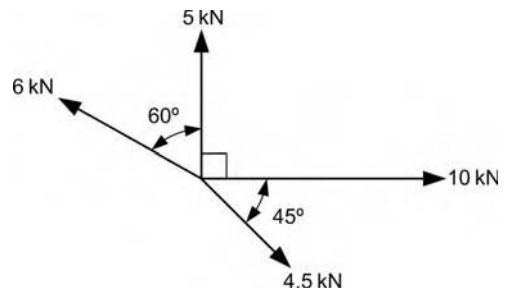

Figure 4.39 Force system.
1. For the force system (Figure 4.39) determine *graphically* the magnitude and direction of